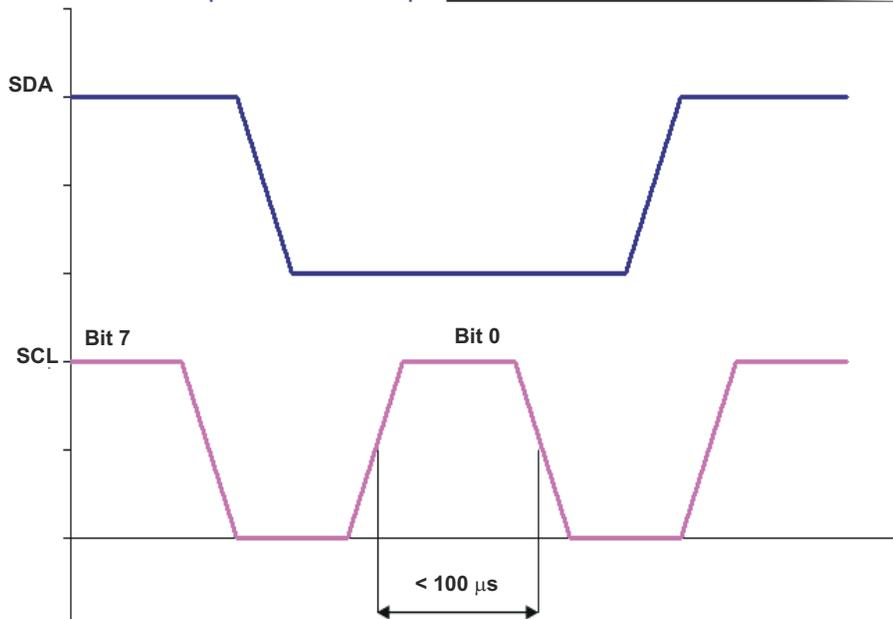

Figure 5-4. Eighth Bit of Write Command Requirements
- Eighth data bit of write command (Figure 5-4): SCL must fall within 100 μ s of SCL rising.